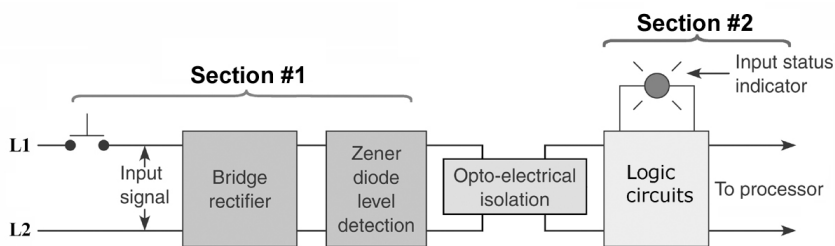

Figure 2-2 Block diagram for question 23.
23. For the block diagram of the input module shown in Figure 2-2, Section #1 represents the _____ and #2 the _____.